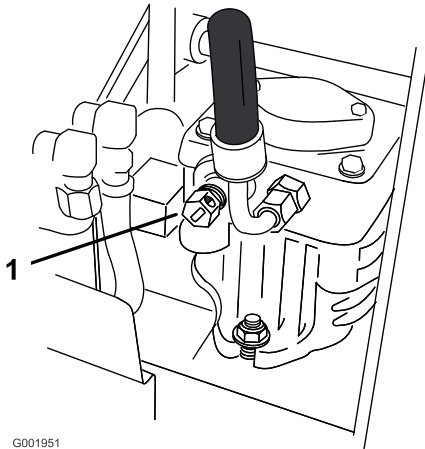

Figure 9
2. Open the by-pass valve on both pumps by turning them counter clockwise 1 to 2 turns. This allows hydraulic fluid to by-pass the pumps and the wheels to turn (Figure 9).